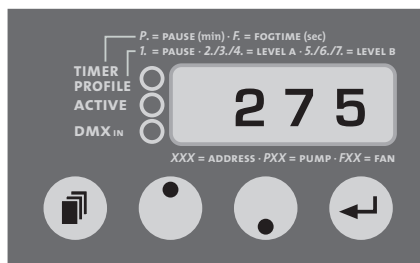

Fig. 3: Adjusting the DMX-start address
- a) Press the Mode-button [14] at the control panel until three figures appear on the LED-display [17] (see Fig. 3).